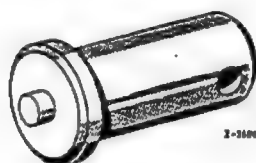

Fig. 42-21/1a
If the brake pedal free play is found to be variable and the brakes fail to release or to release properly, a binding relay lever (19) in the bearing bracket (20) is responsible. When the relay lever, which transmits the pressure on the brake pedal to the piston rod (2) of the power brake (1), does not move easily the power brake returns very slowly to its released position. To prevent relay lever binding, the diameter of the bore in the relay lever for the collar bolt (18) has been increased as from chassis end no. 011 319 (Fig. 42-21/1b). For repairs on older cars, a thinner collar bolt, Part No. 113 991 00 07 is available, which can be easily recognised by its 5 mm projection (Fig. 42-21/1a).